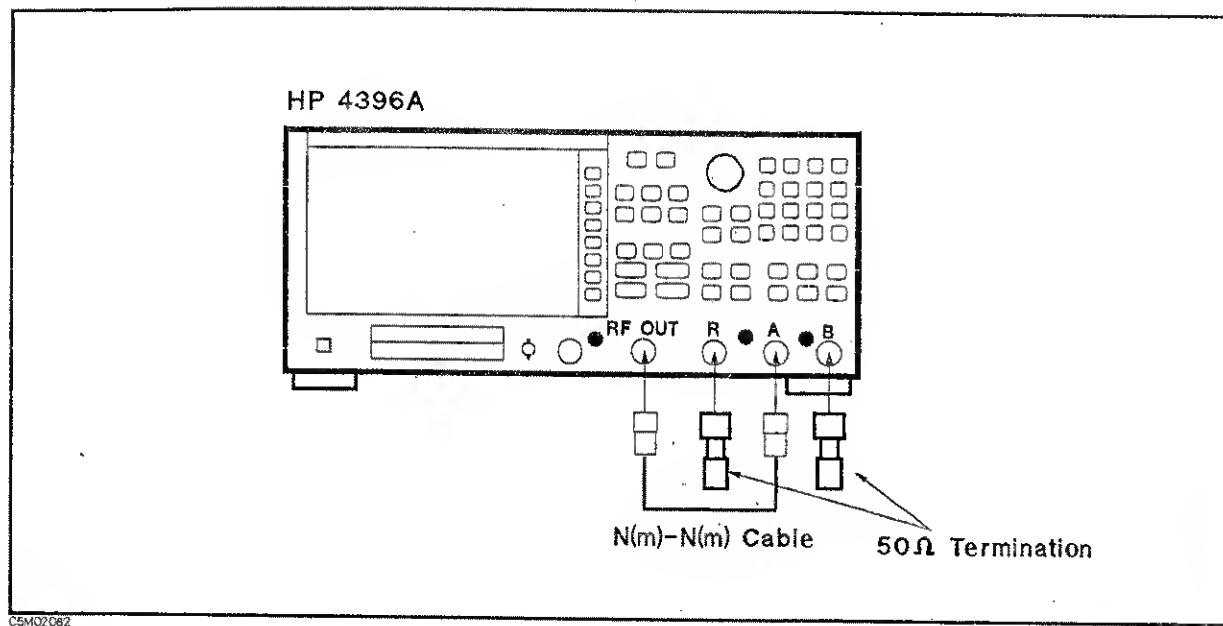

Figure 2-8. Input Crosstalk Test Setup 2
- Connect the test equipment as shown in Figure 2-8.